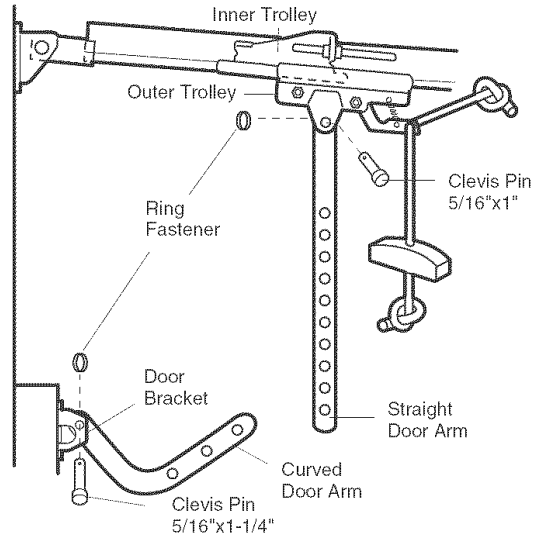

Figure 1
- Make sure garage door is fully closed. Pull the emergency release handle to disconnect the outer trolley from the inner trolley. Slide the outer trolley back (away from the door) about 2" (5 cm) as shown in Figures 1, 2 and 3.
#### • Figure 1: